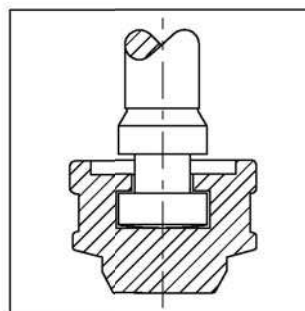
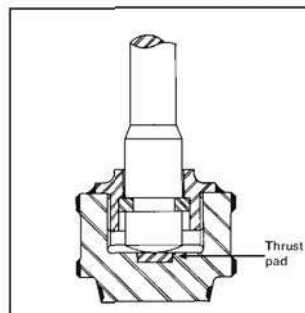

Figure 7.1A Stem disc contact area
Figure 7.1B Tapered disc - thrust pad
3. Verification of contact between the valve disc and the stem is made by a radius on the end of the valve stem and is designed to give center loading for the disc as closely as possible. A hard thrust pad (Figure 7.1A), which can be found in some designs, will help prevent galling. On valves without a thrust pad, the bearing surface in the disc has a hardface deposit on it (Figure 7.1B). If particles get caught between the end of the valve stem and the disc, the center of the stem could be destroyed and the disc will not seat tightly. The contact surfaces of the stem and the disc must be checked first in leaky valves in order to ensure that the disc-stem contact is in proper condition.
NOTE: A quick test is to take the stem-disc assembly (Figure 7.1A) and check if the disc can be rocked. The rocking will allow the disc to self-align to the seat. Some globe disc with disc union design have a hardface deposit or a thrustpad, (see Figures 7.1B and 7.1C.)